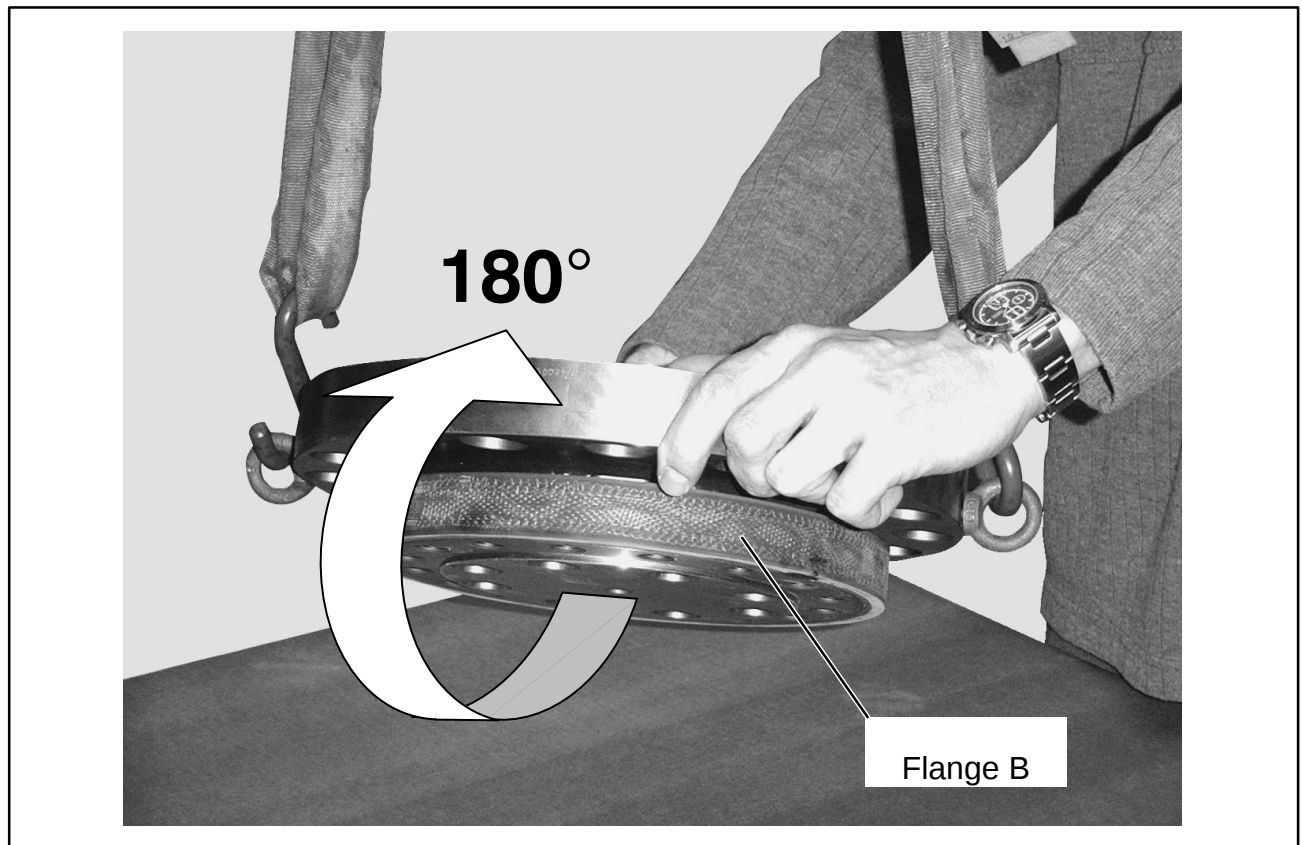

Fig. 4.2: Turning the rotor
1. Lift the rotor from its packaging, turn it horizontally by 180 degrees so that flange B is pointing upwards (see Fig. 4.2).